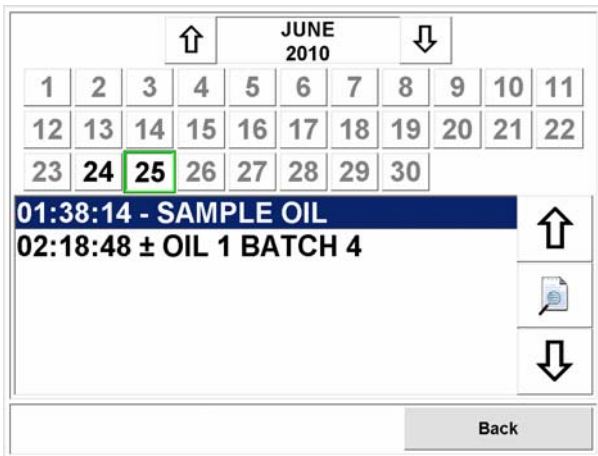

Figure 13: Results Browser Main Screen
- Use the two arrows on the top of the screen to choose the month/year. See Figure 13 below: